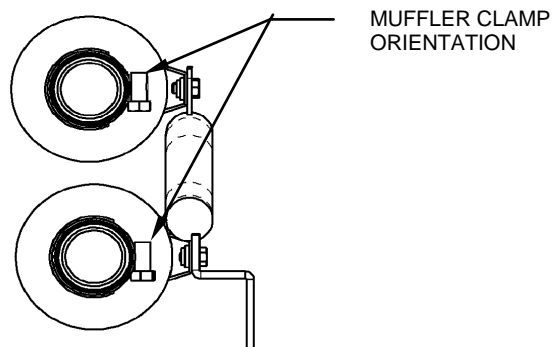

FIGURE 2
7. Install supplied muffler clamp onto front of lower muffler (see figure 2) and slide muffler onto front head pipe. Place supplied slider bracket flat side up inside the mounting bracket of muffler. Start two 5/16 bolts supplied through exhaust mounting bracket into muffler slider bracket. **DO NOT TIGHTEN at this time.**
9. Rotate the muffler clamps as shown in figure 2. **DO NOT TIGHTEN.** The clamps should not be pushed back past the slots or the muffler will not tighten on the head pipe.